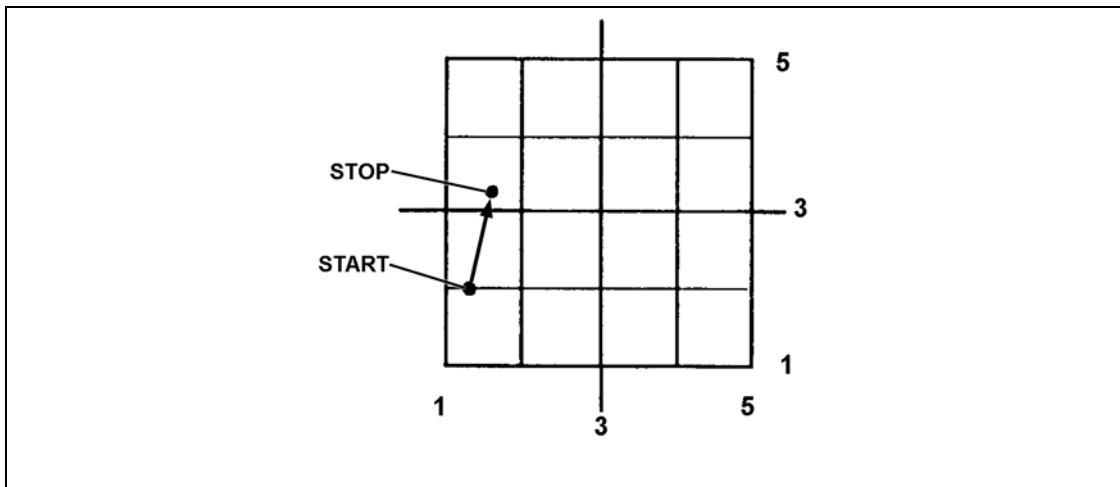

Figure B-24. Adjusted aim point.
- (14) Helper tells the gunner to lay the gun the distance and direction shown by the arrow from the last lay of the telescope (Figure B-24, page B-17).
- (15) The example shows the start and stop points of a gun lay with the telescope starting in the *left* position. In this case, the gun was moved about 1 1/4 mils in the direction of one o'clock. You can lay the gun with the telescope in any position (*left* or *right*), but you must move the gun the distance and direction indicated by the arrow.